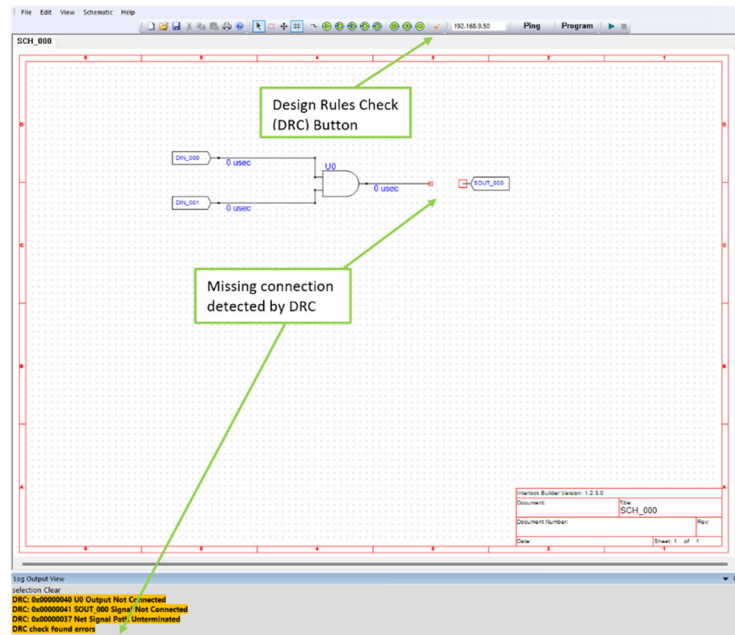

Figure 42 - DRC Detects Missing Connection on SOUT Port
- An example of how the DRC indicates a missing connection is shown in Figure 42 - DRC Detects Missing Connection on SOUT Port